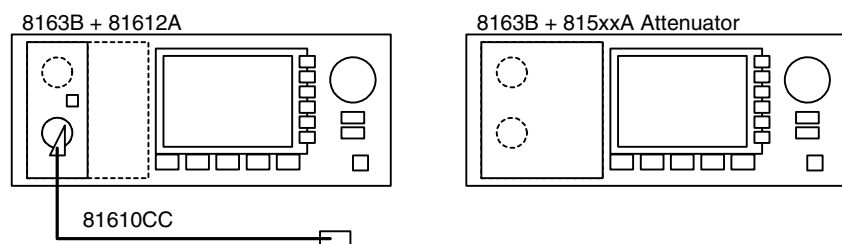

Figure 17 Return Loss Reference Setup
- 3 Connect the equipment as shown below in Figure 17.